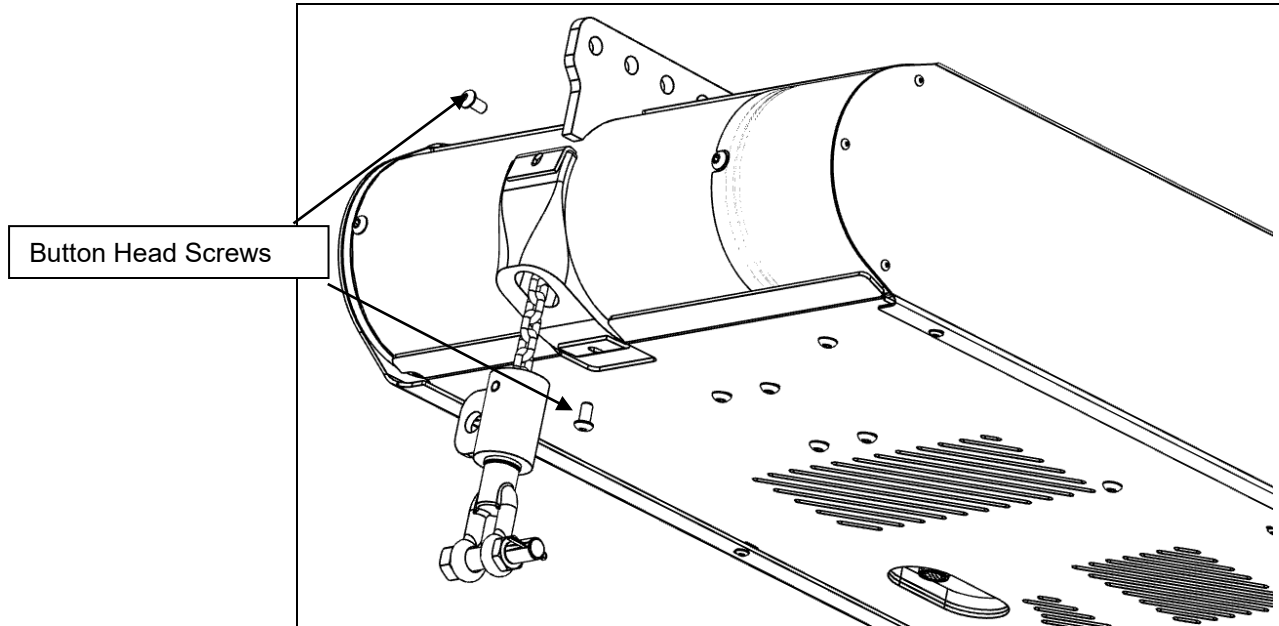

Figure 4-19
Step 2. Remove the chain/cable guide from hoist by removing two (2) 5/16-18 button head screws and sliding the chain/cable guard down the chain (See Figure 4-19 & 4-20).